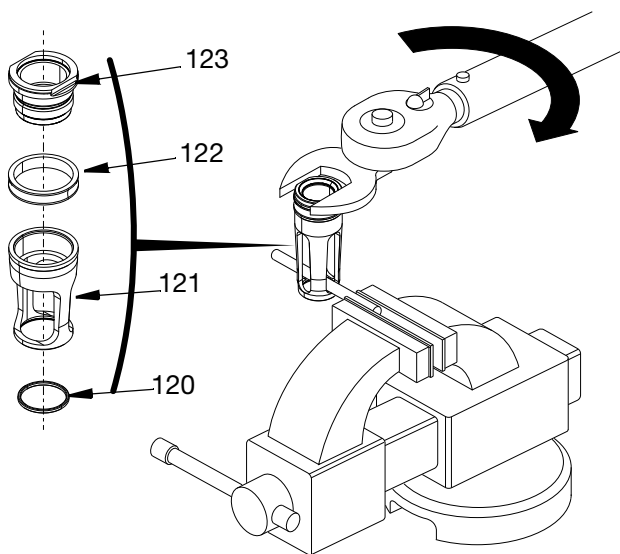

FIG. 22
1. Place poppet outlet check valve (123) in a vice. Install a new piston seal (122) and apply a bead of thread locker to the threads on the poppet outlet check valve. Thread the piston guide (121) into the poppet outlet check valve. Remove assembly from vice.
2. Insert an 0.5 In. (12.7 mm) brass rod through the openings of the piston guide. Clamp the rod into a bench vice making sure the assembly is not in the vice. Use a torque wrench and a crows foot end, 1.25 In. for L100 CE, and 1.62 In. for L200CE placed on the flats of the poppet outlet check valve (123). Torque to 30 Ft-lb (40.67 N•m).
3. Install the piston guide bearing (120) into the groove in the top of the piston guide (121). See FIG. 22.